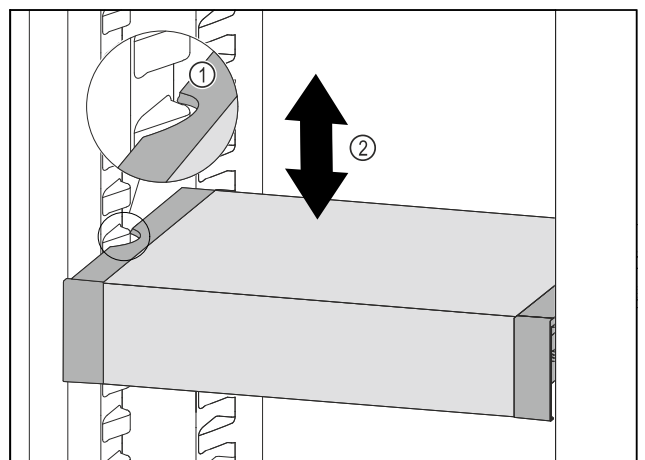

Fig. 105
- ▶ Pull VarioSafe forwards until the recesses in the side of the VarioSafe are at the level of the support rib in the refrigerator compartment. Fig. 105 (1)
- ▶ Move VarioSafe up or down in the refrigerator compartment until the desired height is reached. *Fig. 105 (2)*